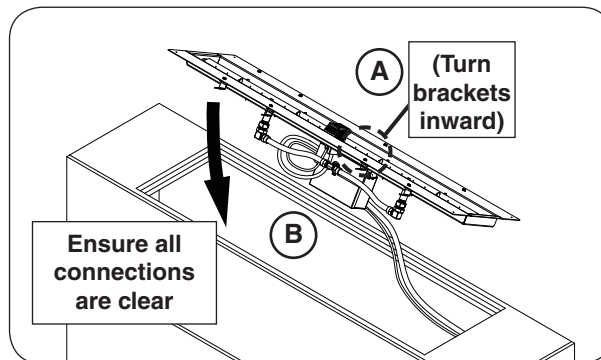

Fig. 20-2 Insert burner assembly
1. Ensure that the eight burner brackets are turned inward, then insert the burner assembly (see Fig. 20-2, A-B).